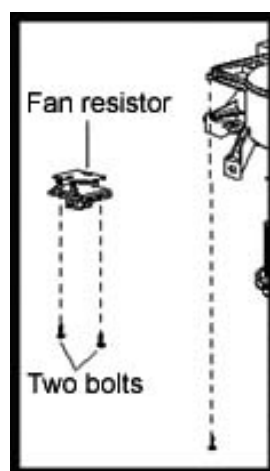

Figure 6-25
(15) Disassemble cooler connection, and disconnect the joint.
(16) Disassemble fan resistor. Disassemble 2 screws and blower resistor,
(17) Disassemble blower assembly with fan resistor. Disassemble 3 screws and blower assembly with motor, as shown in Figure 6-25.